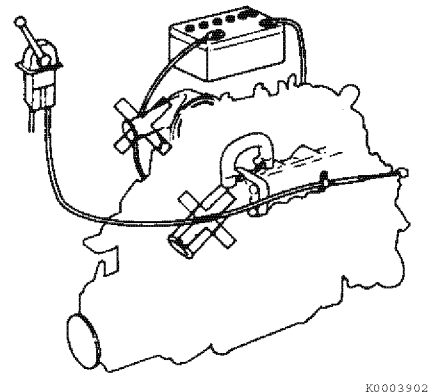

Figure 7-99
5. Do not clamp wire harnesses or other electrical wires to the cable (**Figure 7-99**).